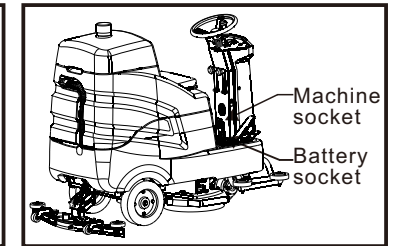

fig. 5
- 3.Turn the recovery tank back(fig.5).
- 4.Connect the battery socket to the machine socket(fig.5).